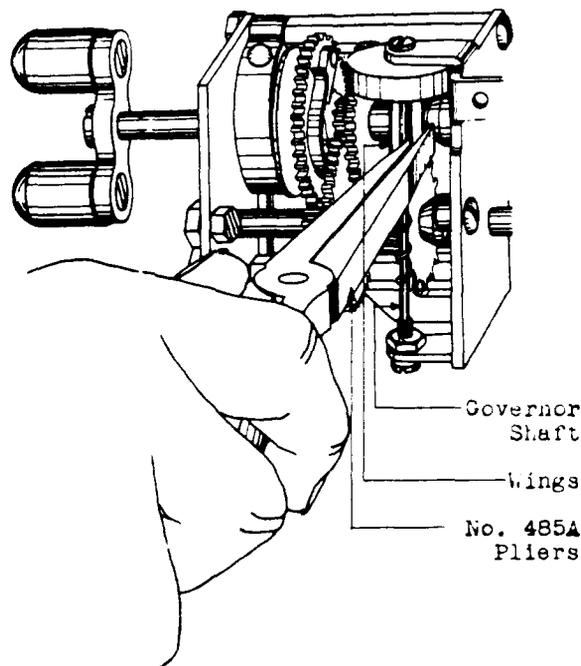

Fig. 12 - Adjusting for Speed with No. 485-A Pliers
(1) To increase the speed, adjust the two wings of the governor approximately equal amounts toward the governor shaft, with the No. 485A pliers applied as shown in Fig. 12.
(2) To decrease the speed apply the No. 485A pliers to the wings in the manner outlined in (1) above and adjust the two wings of the governor approximately equal amounts away from the governor shaft.